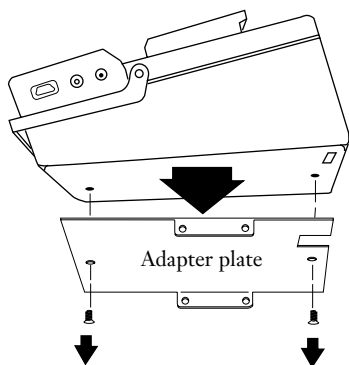

Figure 8
- d) Remove the two short slotted screws which secure the adapter plate to the bottom of the splicer (Figure 8).